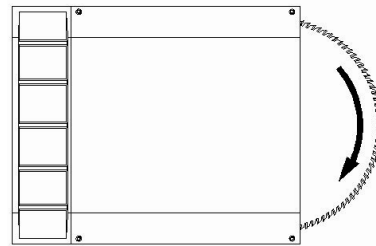

FIGURE 13
- Whether the saw is fixed properly; turning without rolling/secretion and the direction of rotation is as indicated on the label of machine (see Figure 13).